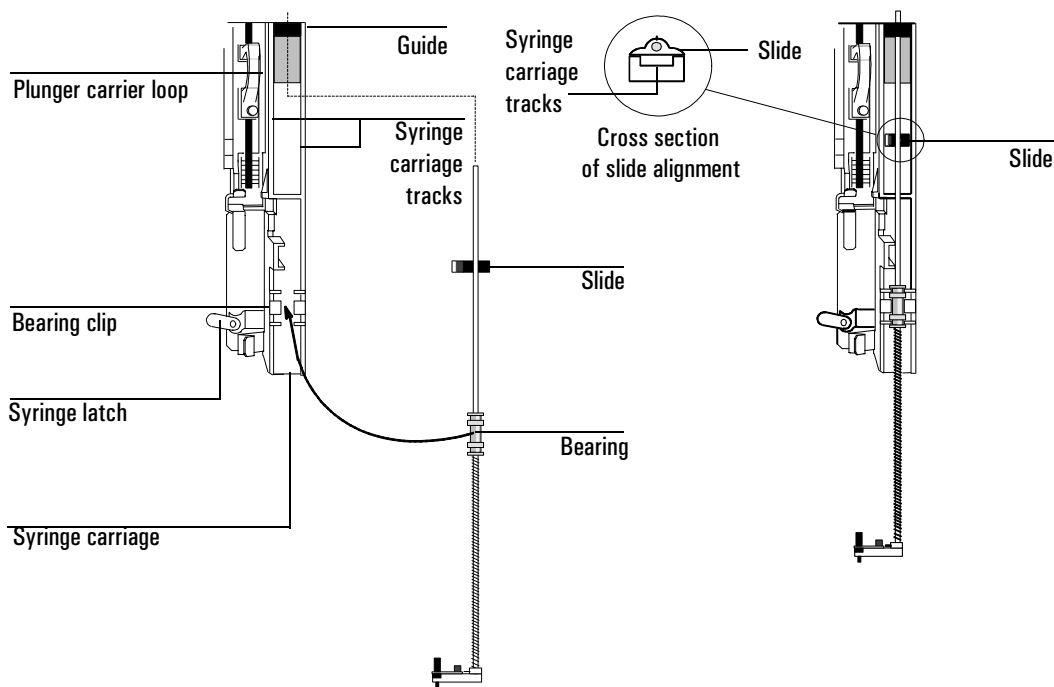

Figure 14 Installing the needle support assembly (250-/320- μm shown)
7. Turn the needle support assembly so that the flat surface of the slide glides up and down the syringe carriage tracks as shown in Figure 14.